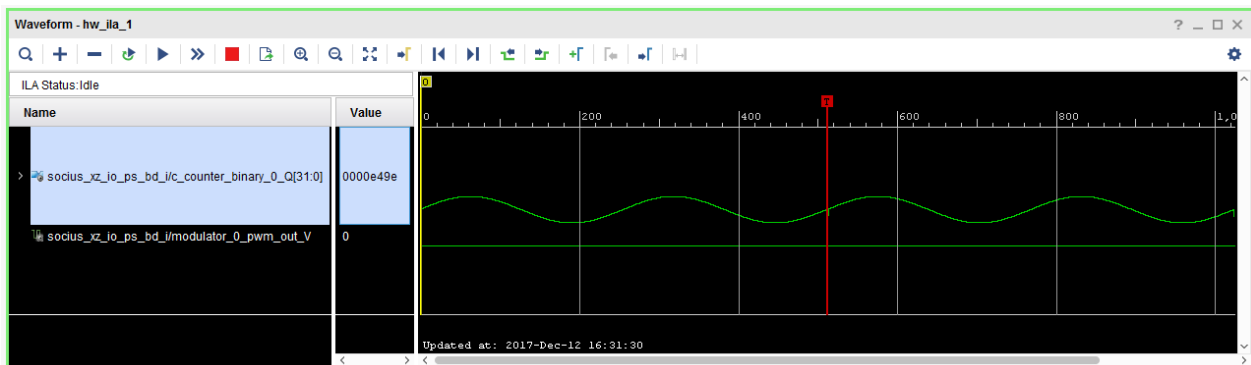

Figure 3.20: Captured waveform of the sine signal, when sw0=1
- Arm the trigger ones more and after triggering the ILA core your captured waveform should look like as the waveform on the Figure 3.20.